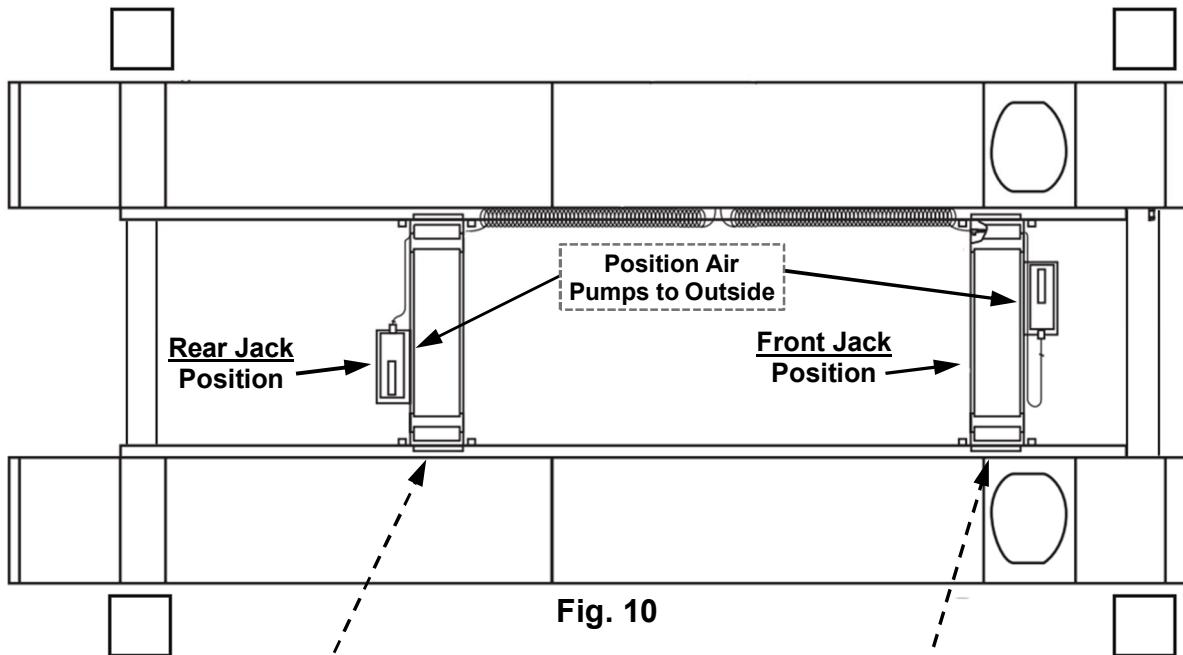

**Fig. 9**
- 6) Attach 4ea Angle Brackets to the mount holes on the inside of Main Side Runway using M8 x 30mm Hex Bolts, M8 Flat & Lock Washers, and Hex Nuts, as shown in **Fig 9**.
- 7) After attaching Angle Brackets to runway, route the Guide Wires (Front, Rear & Center) through Coiled Air Tubing, then attach ends to Angle Brackets using 8ea 1/4" Hex Nuts & 2ea Hex Coupler Nuts, **Fig 9**.